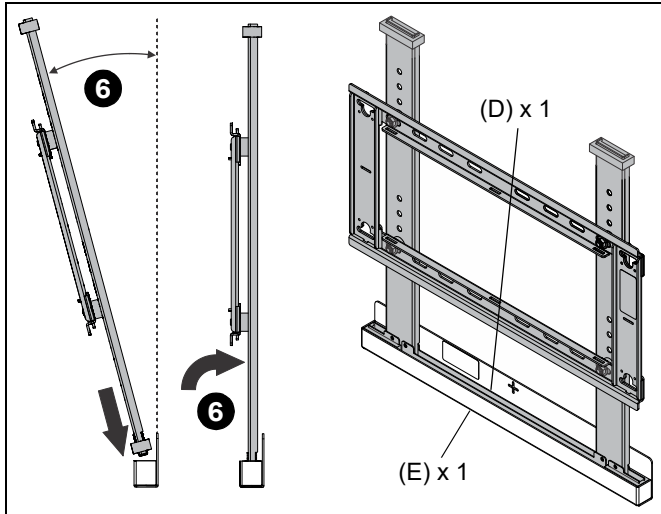

Figure 4
6. Insert bottom edge of the assembled frame into lower wall bracket (E) at an angle. Once in place, rotate the upper edge of the frame towards the wall until frame rests flat against the wall. (See Figure 4)
**NOTE:** Make sure lower bracket (D) is completely seated into the lower wall bracket (E).